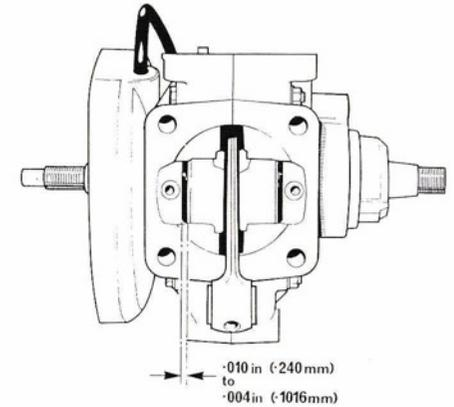

Fig. 25 Showing crankshaft end float checking point at crankcase mouth.
- 6 Check that crankshaft end float is correct. The recommended figure is .010 in.–.004 in. (.240/.1016 mm) checked by end movement on the crankshaft. The point at which end float figure is checked is shown in Fig. 25. If the end float figure is incorrect, remove the backplate and add or subtract shims until the correct figure is achieved. After removal of shims the crankshaft should be driven towards the flywheel to re-seat the main bearing race before re-checking. At each stage the magneto backplate must be refitted and secured for checking.